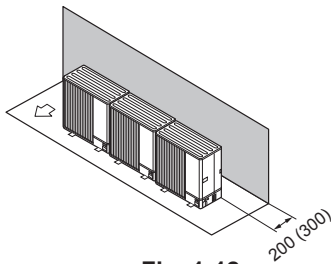

Fig. 1-12
- ① Obstacles at rear only (Fig. 1-12)